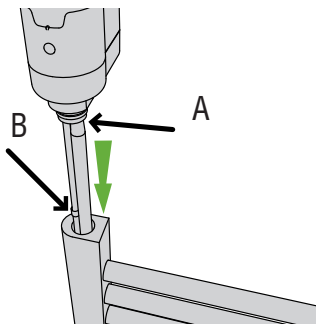

Fig. 5
3. Insert the tip of the products heating element into the bottom hole of the towel rail as shown and make sure to select the female 1/2" GAS thread of the towel rail in the opposite vertical tube to where the 3 Bar valve is installed (Fig. 5).